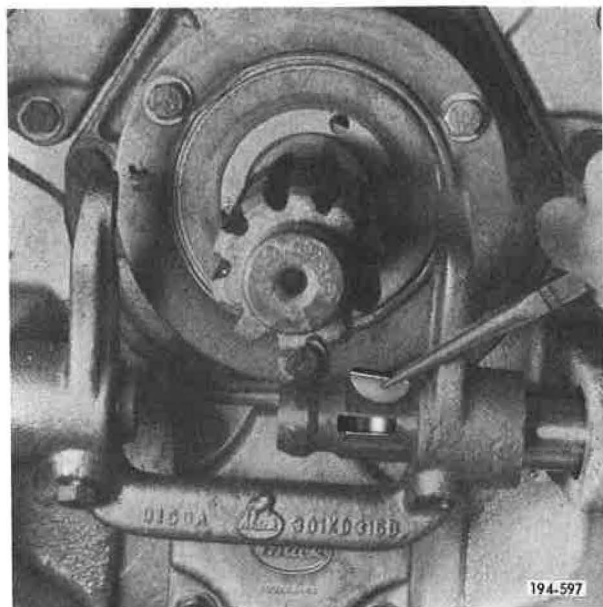

Figure 5-227. Removing Woodruff Key
4. Drive splined clutch release shaft inward, and remove Woodruff key. See Figure 5-227.